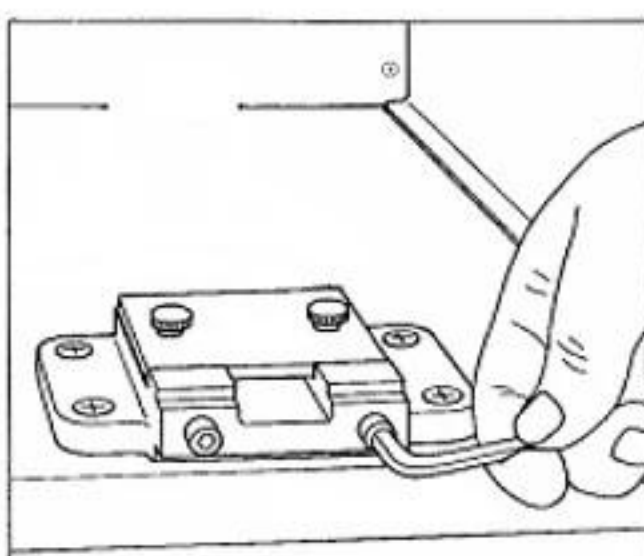

Fig. 9: Unscrewing hex screw from Mounting plate
- 3) Unscrew 2 hex socket screws from Headrest mounting bracket using with one of the supplied wrenches (Fig. 9).